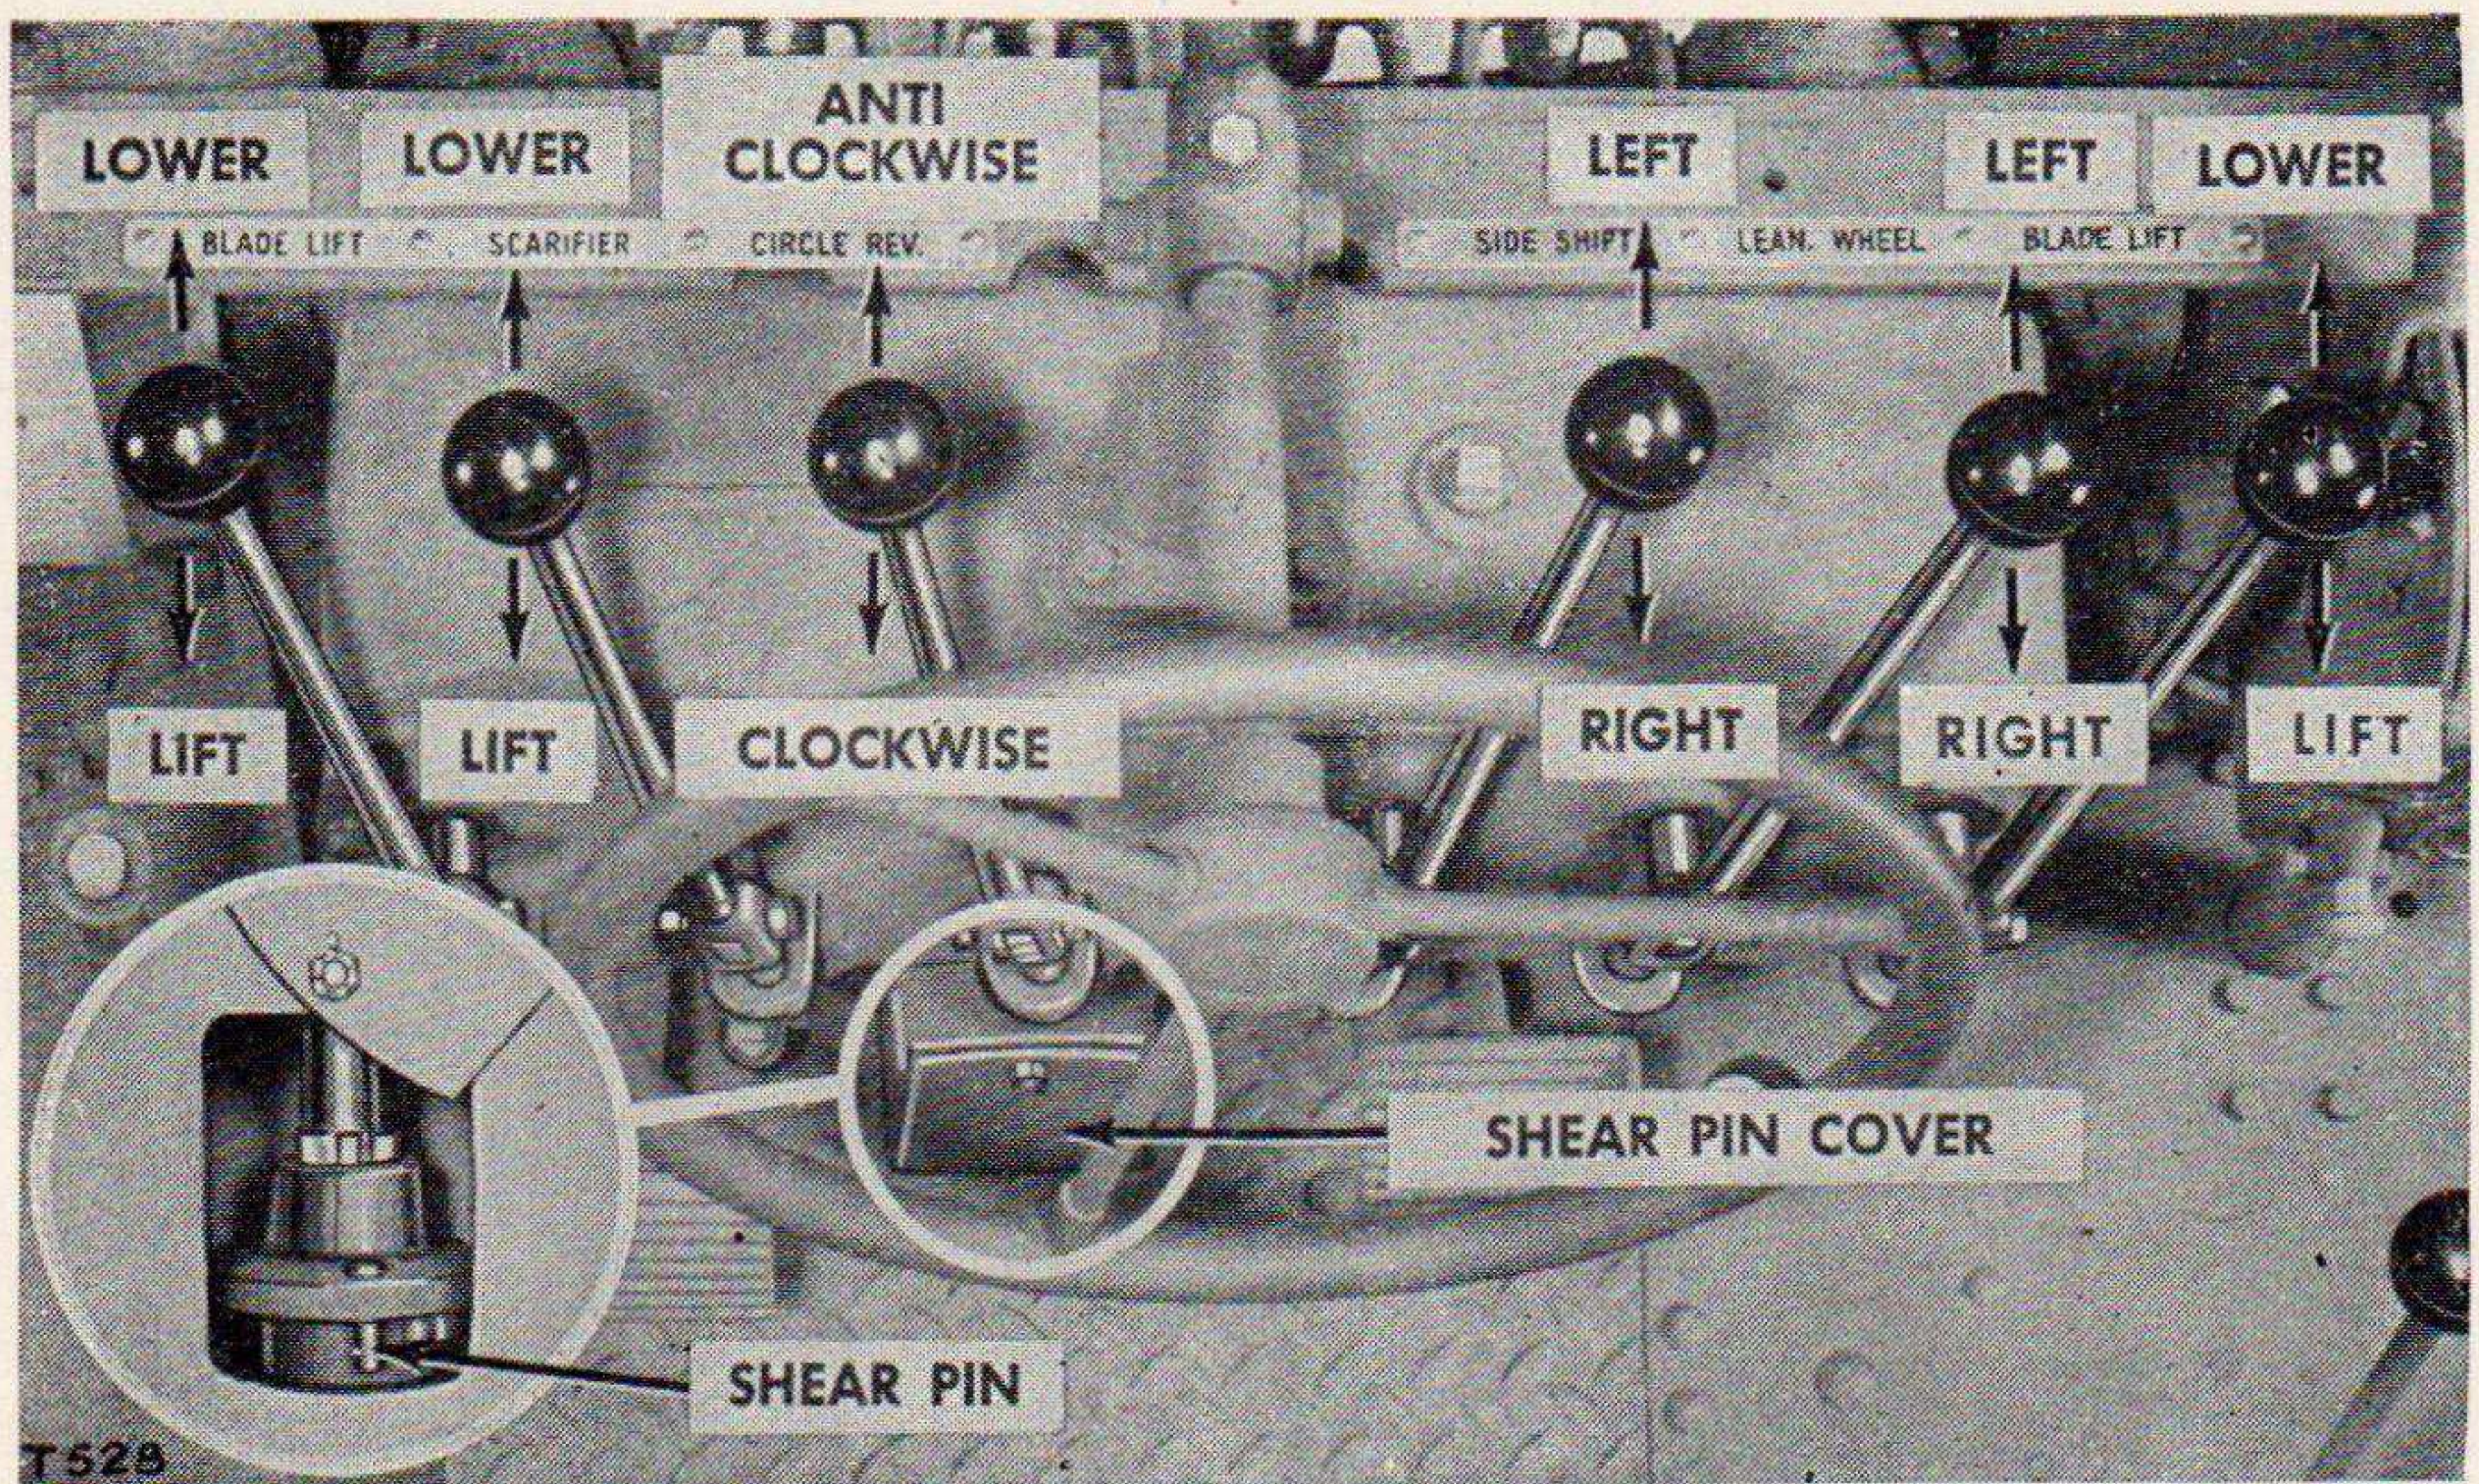

Figure 26. Power control levers.
- (1) After normal operation allow the engine to idle five minutes with the throttle half open before stopping the engine.
- (2) Move the throttle control lever to the extreme forward "Shut Off" position and drop the plunger into the hole on the throttle control bracket.
- (3) Place compression release lever in "START" position.
- (4) If machine is to be left exposed to the weather cover the exhaust pipes to exclude rain or snow.
h. OPERATING THE POWER CONTROLS. (See fig. 26.)
- (1) *General.* The power controls are driven directly by the engine independent of the flywheel clutch. The control levers must be held in engagement by the operator.
- (2) *Shear pin.* On late motor graders the power control shaft drive is equipped with a shear pin. This shear pin has sufficient strength to withstand normal expected operation but will shear when abnormal shock occurs, thus preventing damage to the controls. To install a new pin, stop the engine, raise the cover in the housing, rotate the shaft until the pin hole in the shaft flange is accessible, remove the broken pin, and drop a new pin in place.
- (3) *Blade lift control.* The blade lift control levers can either be operated independent of one another or they can be operated together. Push the control lever forward to lower the end of